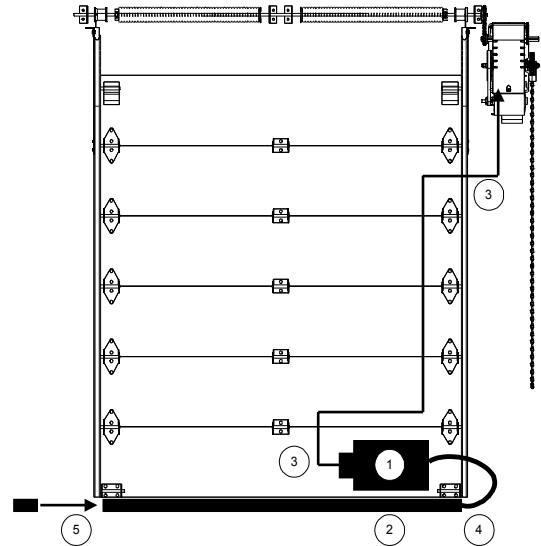

Figure 12 - Reversing Edge
1. Place the air switch in position, refer to Figure 12.
1. Place the junction box in position, refer to Figure 12.